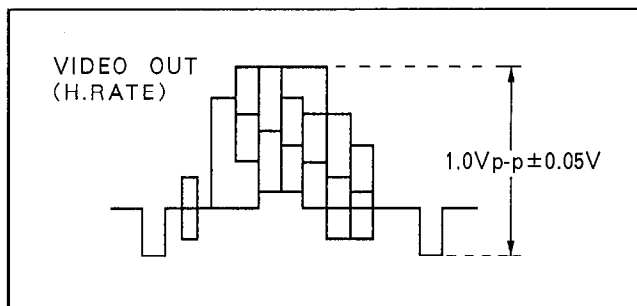

Fig. E2
2. Adjust VR3601 so that Y level is $1.0V \pm 0.05V_{p-p}$. (Refer to Fig. E2)